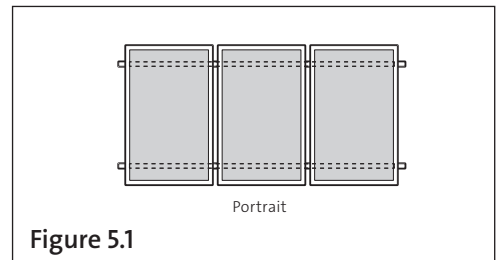

Figure 5.1
5.1. Portrait Installation (Refer to Figure 5.1)